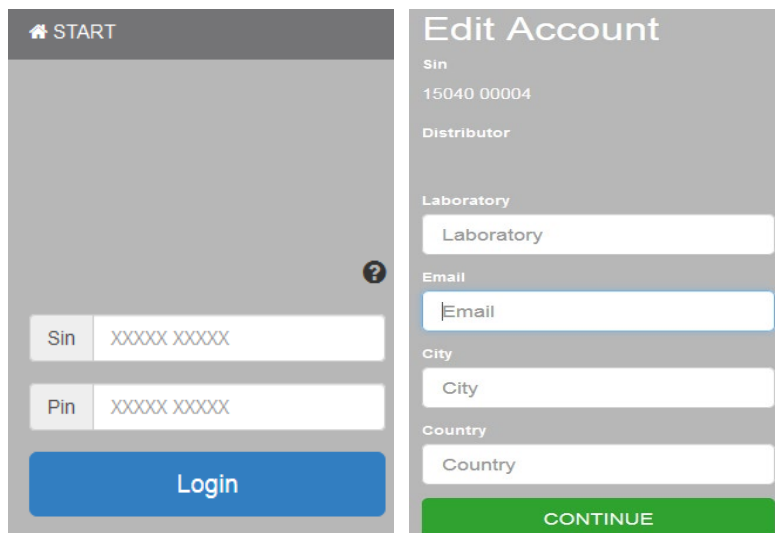

FIGURE7 : REGISTRATION OF THE DIACHECK SERIES
- 1) Open the web link [www.dialab-reg.com](http://www.dialab-reg.com) or scan the QR code on the System ID card using a mobile device (tablet/phone) (see Fig. 7).